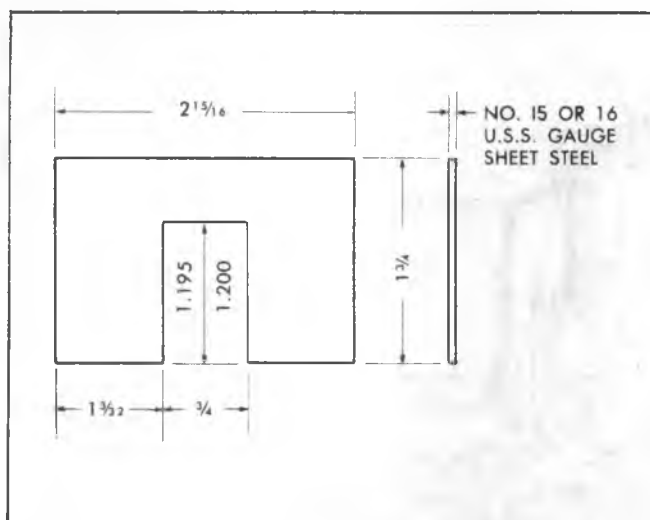

Fig. 9B—Push Rod Gauge
**NOTE:** If push rod height adjustment gauge is not available, the required dimensions for fabrication are given in Figure 9B.